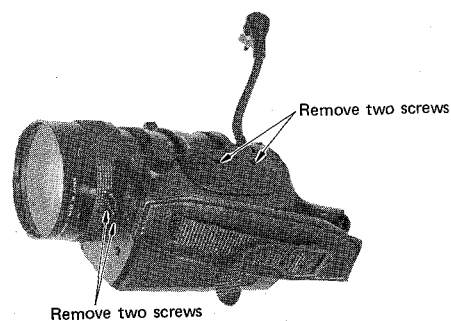

Fig. 14
- Remove two screws which hold the grip pad and remove the grip pad. (Fig. 14)
- Remove two screws which hold the zoom panel and remove the zoom panel. (Fig. 14)